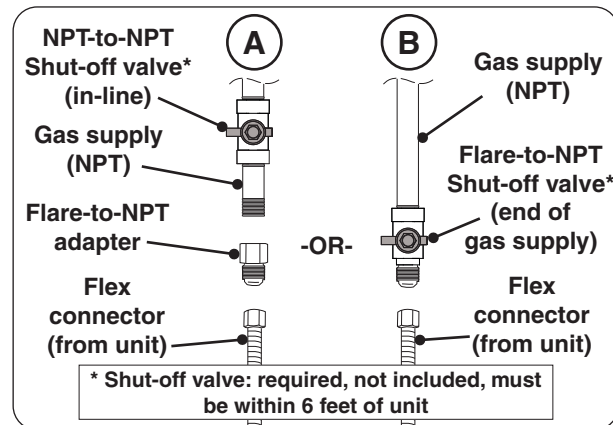

Fig. 19-3 Connecting to a gas line
- Install the supplied flare-to-NPT adapter to the gas supply (NPT) using a pipe joint compound resistant to all gasses (see Fig. 19-3, A). Tighten securely.
- Connect the flex connector to the adapter (see Fig. 19-3, A). Tighten securely.
- Connect the flex connector to the shut-off valve (flare) (see Fig. 19-3, B). Tighten securely.